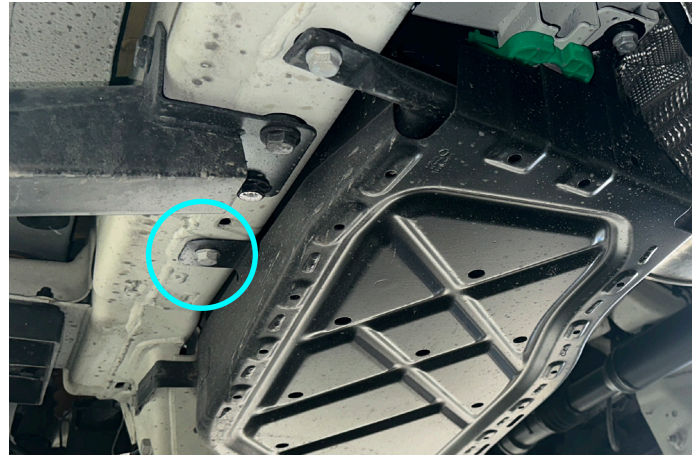

Fig. 6
6. Loosen, but do not remove, factory side bolt as shown in fig.6